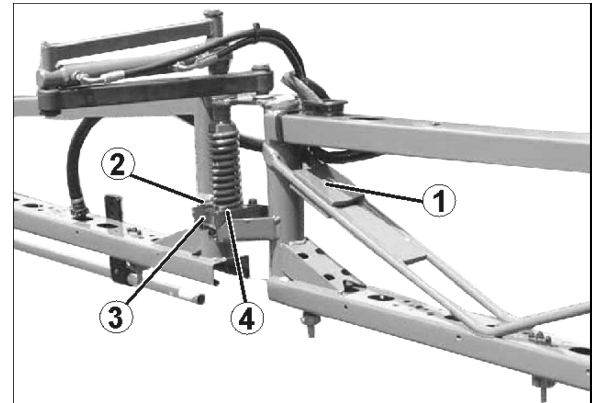

Fig. 137
If this is not the case, with the swing compensation **unlocked**, align the folded-out sprayer boom using counterweights (Fig. 137/1). Secure the counterweights to the boom in an appropriate fashion.
1. Undo the screws (Fig. 137/2) for the fastening lug (Fig. 137/3). Alignment is carried out right on the plastic jaw (Fig. 137/4) via die slotted holes on the fastening lug.
3. Tighten the screws (Fig. 137/2).